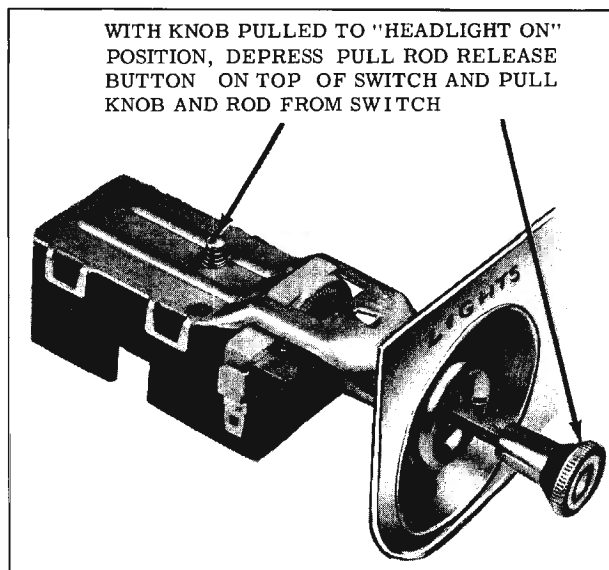

Fig. 14-137 Headlamp Switch Removal
2. Remove knob and rod by first pulling knob out to the headlamp "ON" position, then depress pull rod release button on the side of the switch assembly and pull the rod out. (Fig. 14-137)